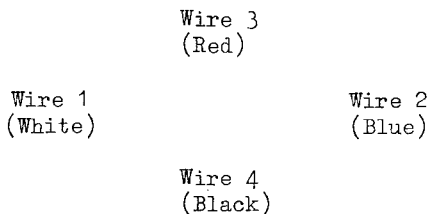

FIG. 1. QUAD FORMATION IN 4 WIRE CABLE.
- 4.2 The conductors in the four wire cable are arranged in a quad formation, the diagonally opposite wires forming the pairs. The white and blue wires form 1 pair and the red and black wires the other. This configuration is shown in Fig. 1.